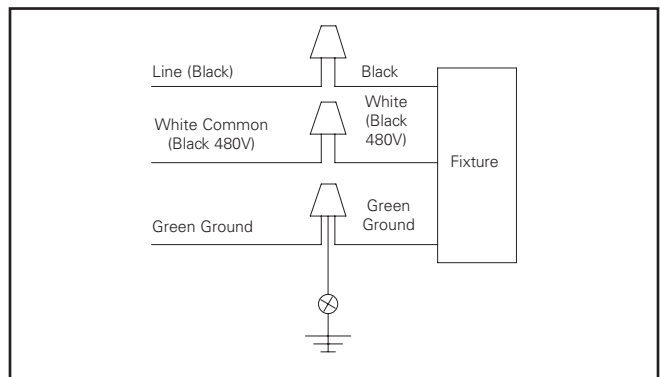

Figure 4.
4. Make wire connections inside the mounting arm. Refer to wire diagram for power connections. Connect the supply wires to appropriate luminaire leads: (Figure 4)
1. Determine wire connection method whether inside the mast arm or inside a separate junction box. Lead wires are provided exiting the mast arm for connections. Refer to wire diagram for power connections. Connect the supply wires to appropriate luminaire leads as shown in (Figure 4).
3. Secure the mast arm to the mounting arm with the (3) 3/8-16 x 3/8" set screws. Level the fixture while tightening the set screws. Torque to 120 in-lbs.